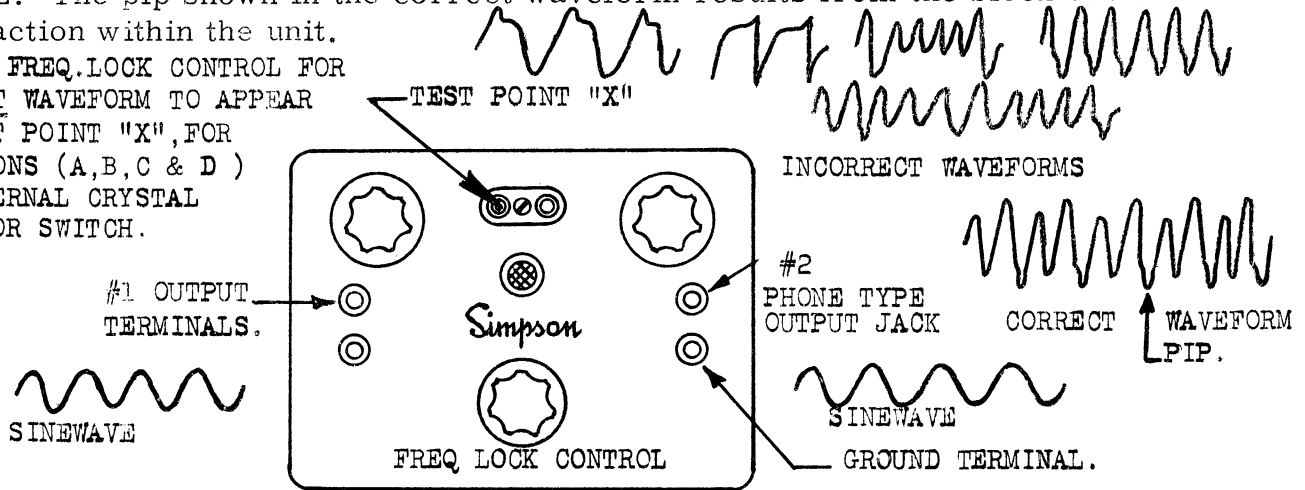

Figure 1 Waveforms produced at Output Terminals
2. Connect oscilloscope to test point "X" (left terminal of crystal socket) and ground. See Figure 1.
5. Adjust **FREQ. LOCK** control for correct waveform as shown in Figure 1.